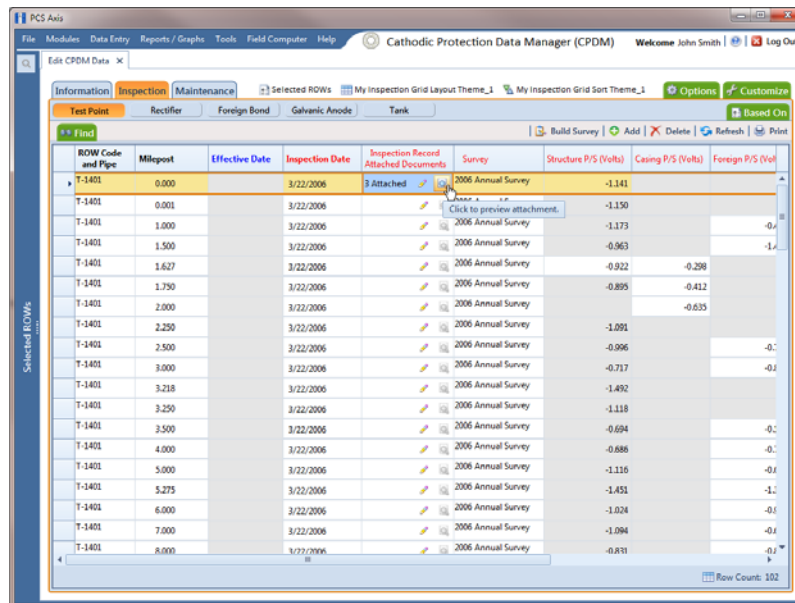

Figure 7-106. View Attached Document
- 4 Click the preview icon  for the grid record with the attached document (Figure 7-106).